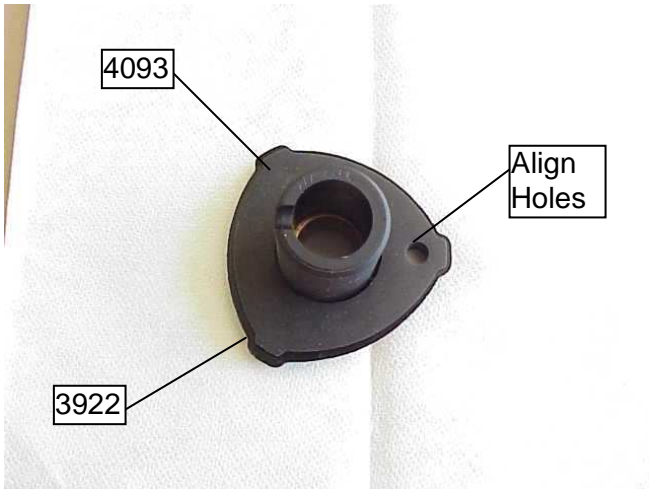

Figure 3.
2. Remove the 4093 Gasket adhesive backing paper. With the gasket adhesive toward the ribbed side of the 3922 Bushing, take care to align the small hole on the gasket with the small hole on the bushing. Apply the gasket to the ribbed side of the bushing. Repeat. **See Figure 3.**